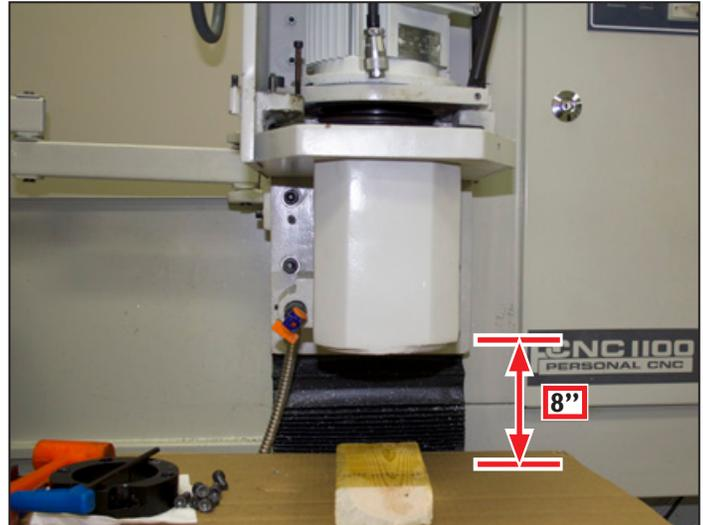

Figure 13
1. Jog machine down to position spindle mounting face approximately 8" off of machine table (see **Figure 13**).